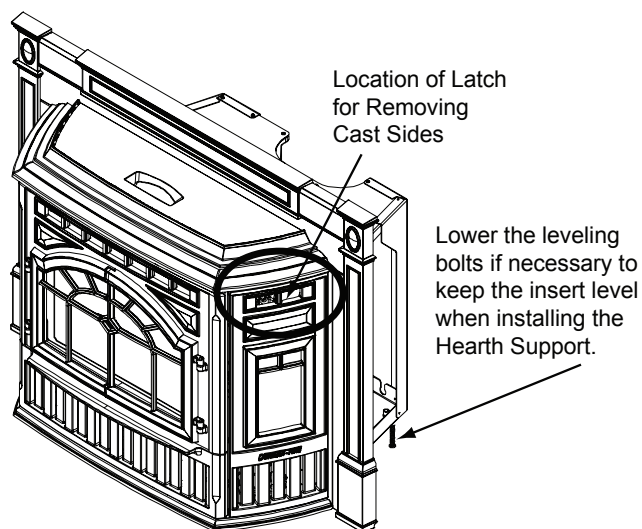

Figure 21.4 - Shown with Cast Panel Set
1. There is a latch on the back side of the cast side in the middle of the top opening of the cast side as indicated in **Figure 21.4**.